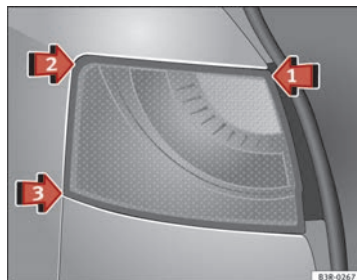
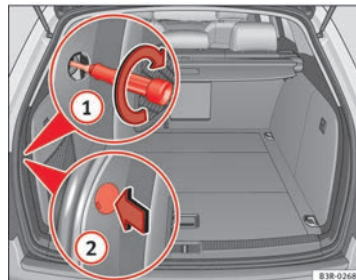

Fig. 230 Fitting the tail light unit
Fig. 231 Luggage compartment: Location of the bolt securing the tail light unit
- First place the tail light unit in ⇒ Fig. 230 arrow ① in the housing.
- Gently press the tail light unit against the housing, first in position ② and then in position ③, until that the clips engage firmly in the rubber mountings.
- Apply gentle pressure to the upper part of the tail light unit and secure using the screwdriver, from the luggage compartment ⇒ Fig. 231 ①.
- Fit the cover back onto the screw, with the notch pointing to the rear ②.